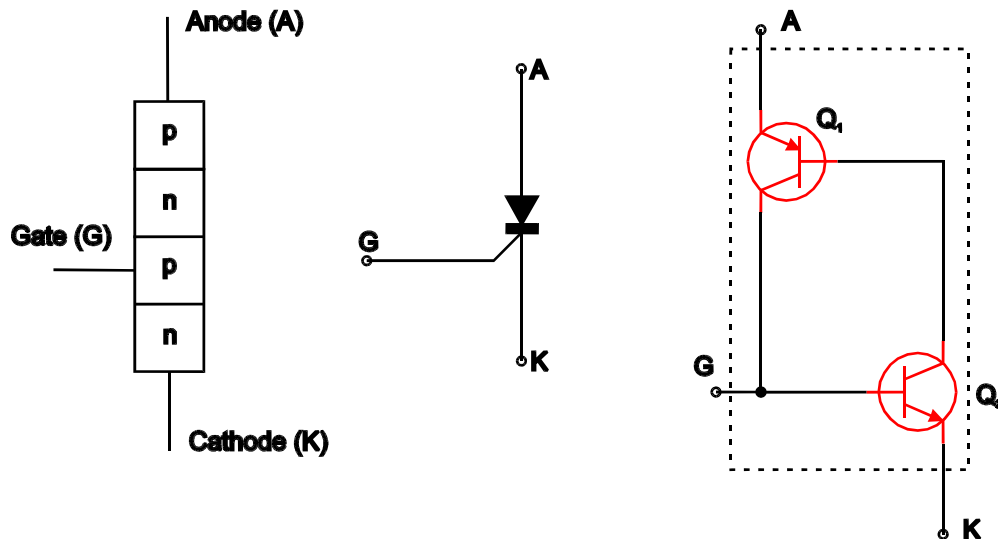

Figure 2.43
SCR is an abbreviation for a **silicon-controlled rectifier**. Its construction and schematic symbol are shown in Figure 2.43. It is a device made of four pieces of doped semiconductor, forming three pn junctions. In other words, it is a four-layer pnpn device. In a similar way to the classic diode, the SCR has two terminals, called an **anode (A)** and a **cathode (K)**. In addition, it has one more terminal called a **gate**, which is denoted with the letter **G**. Very often a SCR is called a *thyristor*. This name originates from the gas filled thyatron valves. They were used for many years in similar applications, as the SCRs are used nowadays.